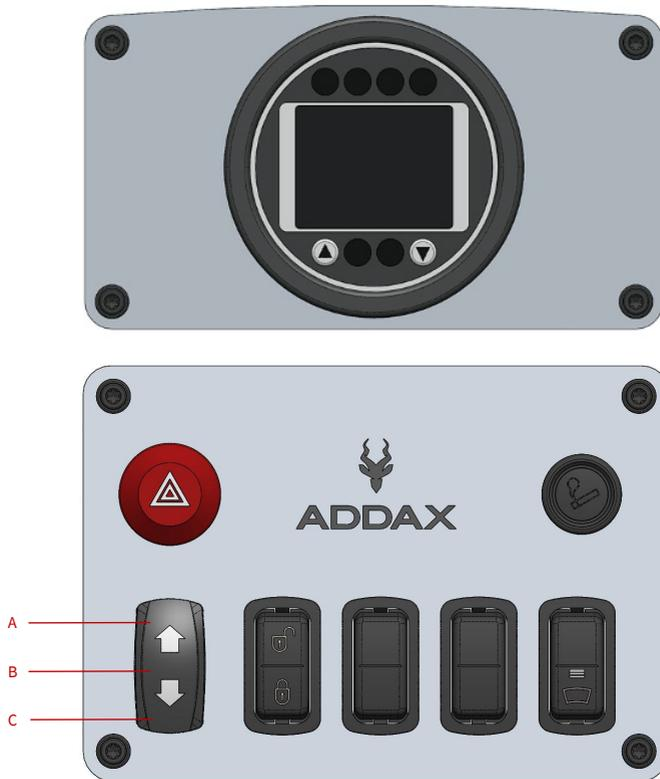

Figure 14 – Forward / Reverse switch and display
2. Before turning the ignition key, be sure the selector lever is in neutral mode, by selecting the position B (see Figure 14 – Forward / Reverse switch).